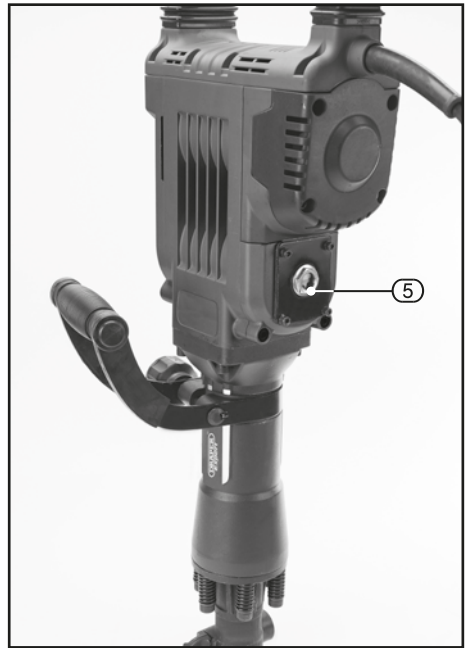

FIG.4
- FIG. 4
To check, hold the tool vertically and rest on the floor. The sight glass window (5) is situated underneath the product, Fig.4. When the oil level is 2-3mm above the bottom of the sight glass window the oil must be refilled.